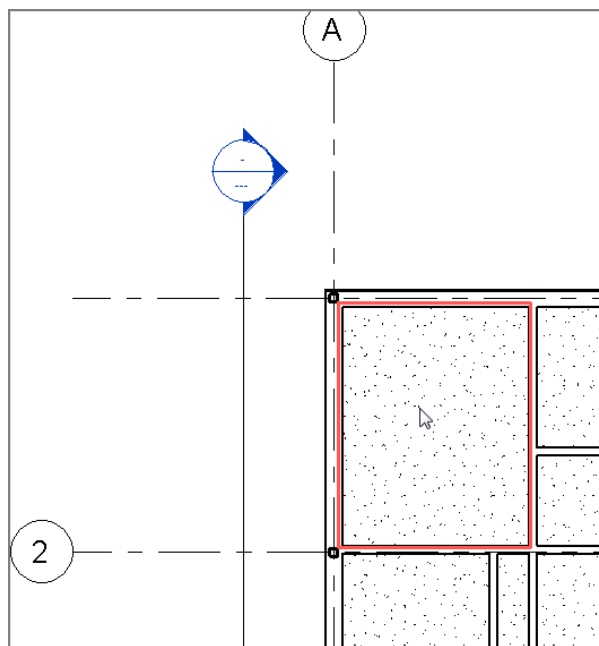

FIGURE 9.4: The Ceiling command finds bounding items such as walls.
4. Hover your mouse over the room shown in Figure 9.4. Notice that the perimeter is outlined in red. This indicates that the ceiling has found at least four walls you can use as a layout.